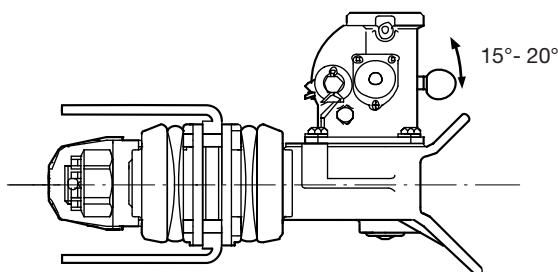

Figure 6
- When the mechanism is in the locked position there should be play of 15°-20° at the handle before the coupling pin starts to move upwards. See figure 6.